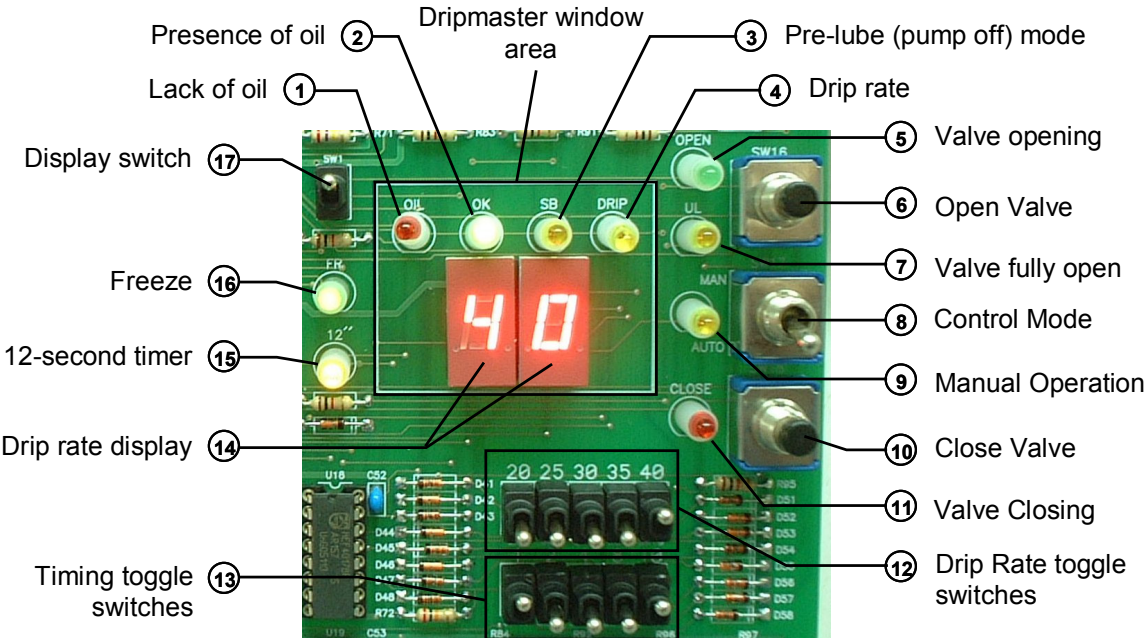

Figure 6: Dripmaster control panel
When the Control Mode toggle switch SW17 is in the lower **AUTO** position (item 8 in Figure 6), the Dripmaster automatically stabilizes the preset drip rate. At the end of each 60 second interval, a short correction command is given only if there is a deviation from the desired preset drip rate.
During normal operation (when the well pump is operating), the drip rate is selectable for drip rates of 20, 25, 30, 35, or 40 drips/minute (Figure 6).
The **OPEN** and **CLOSE** LEDs indicate whether the needle valve is opening or closing. See items 5 and 11 in Figure 6 on page 13.
Select the manual mode by switching the Mode toggle switch to the upper **MAN** position (Figure 6). This mode bypasses the electronic control circuitry, and allows the operator to modify the drip rate by using the Open Valve (manual) and Close Valve (manual) push buttons.